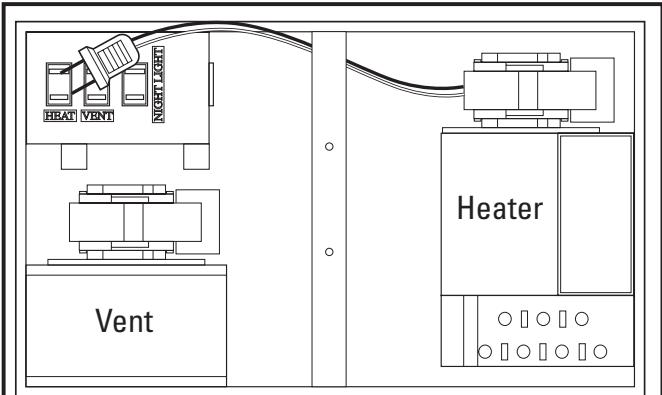
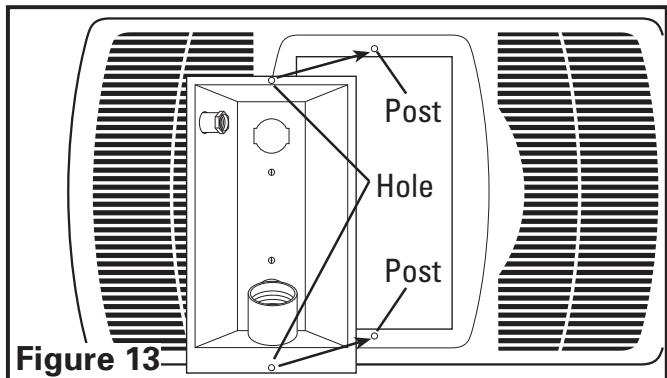

Figure 11
Figure 13
1. Insert the plug from the heating unit into the receptacle marked "HEAT", and the plug from the fan into the receptacle marked "VENT" (Figure 11).
3. Install light reflector into grill by lining up the posts on grill with the holes in light reflector (Figure 13). Raise light reflector and grill up to housing and insert plug from light into receptacle marked "LIGHT" (located on the side of the wire compartment) and insert plug from night light into receptacle marked "NIGHT LIGHT" (Figure 11).